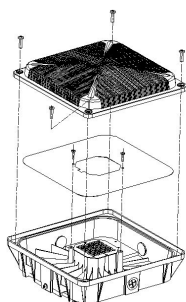

Figure 11
4. Remove the polycarbonate lens and sheet metal reflector (see Figure 11).
9. Reattach the sheet metal reflector and polycarbonate lens to the luminaire housing (see Figure 11).